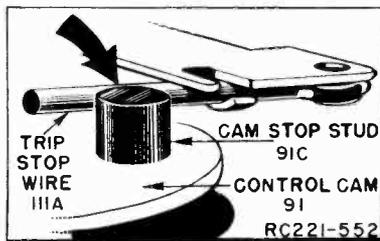

Figure 7. Positioning Trip Stop Wire.
2. Check to see that the top of the trip stop wire (111A) is even (level) with the top of the control cam stop stud (91A) as shown in figure 7. If the stop wire is not even with the top of the stud, bend the wire until it is even. The trip bracket assembly should be removed before bending the trip stop wire.